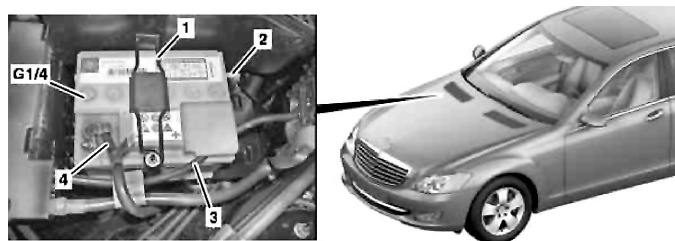

Fig. 3 Starter battery removal
1. Disconnect ground line (4) from starter battery (G1/4). Do not disconnect ground line from on-board electrical system battery (primary), **Fig. 3**.
2. Remove retaining bracket (1), **Fig. 3**.
3. Disconnect positive lead (3) on starter battery (G1/4), **Fig. 3**.
4. Detach bleed hose (2), **Fig. 3**.
2. Attach bleed hose (2), **Fig. 3**.
4. Install retaining bracket (1), **Fig. 3**.